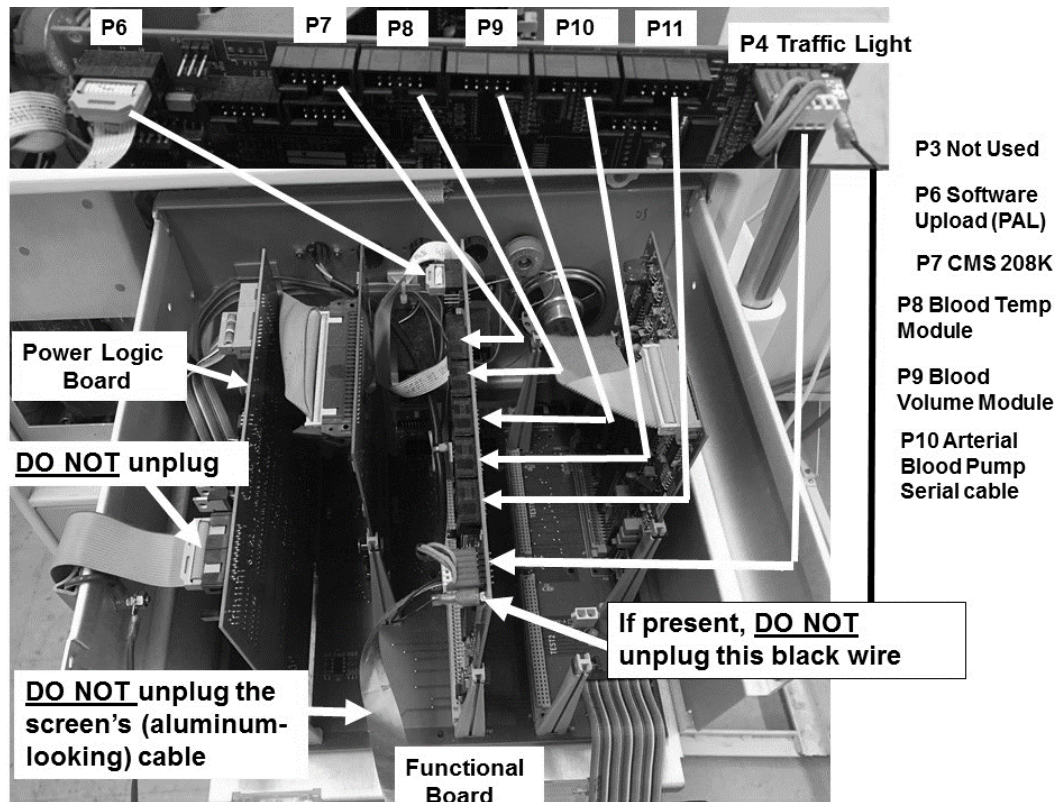

Figure 117 – Card Cage / Functional and Power Logic Board Devices
- B) Your choice, referring to Figure 117 (page 611), plug ONE of the cables back in to where it belongs as recorded above.